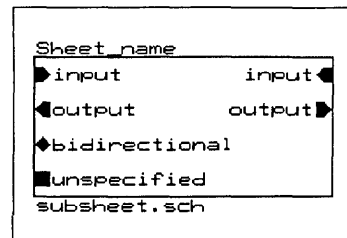

Figure 2-4. Net symbol types.
Draft displays the prompt "Net Name?" Enter the desired net name. A menu displays listing the types of net symbols: **Input**, **Output**, **Bidirectional**, and **Unspecified**. Figure 2-4 shows the types of net symbols. Select the appropriate type.
- ❖ Select **Type** to change the type of the net. A menu displays listing the types of net symbols: **Input**, **Output**, **Bidirectional**, and **Unspecified**. Figure 2-4 shows each of these types of net symbols. Select the appropriate type.